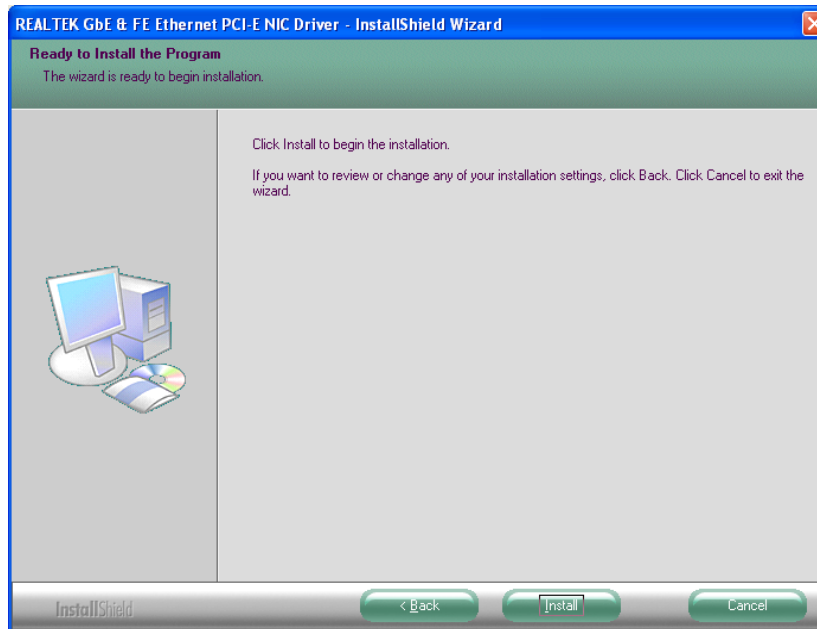

Figure 6-18: LAN Driver Welcome Screen
Step 5: The **Ready to Install** screen in **Figure 6-18** appears.